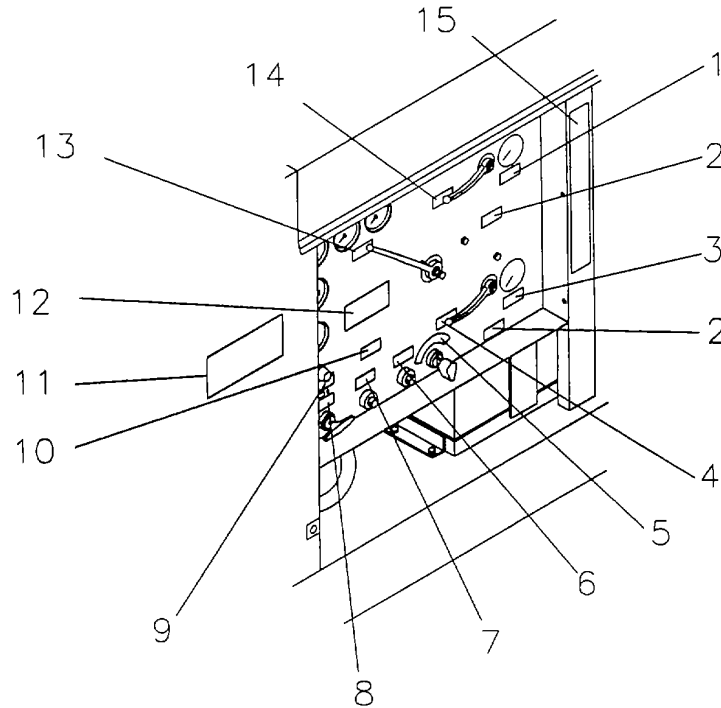

Figure 2-4. Control Panel Decals.
2.11.1 Control Panel Decals. (Figure 2-4).